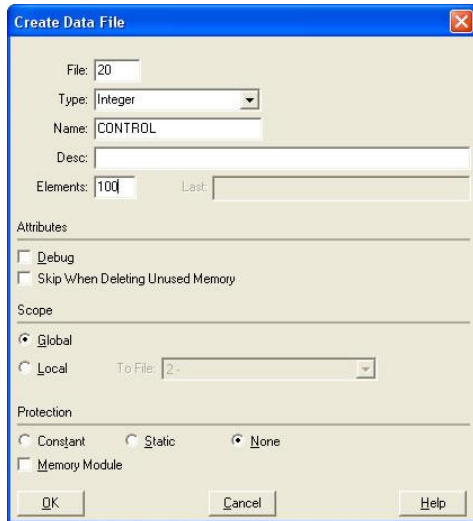

Figure 51: Creating a Control File
- a) Right click Data Files and select New... The “Create Data File” dialog box appears (refer to Figure 51).